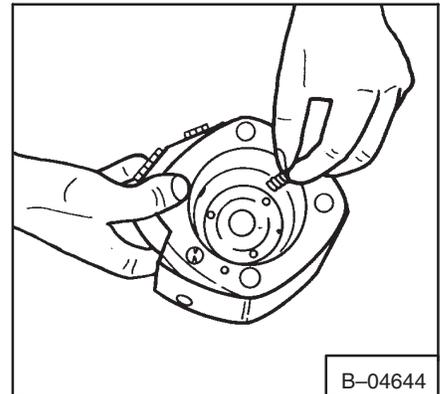

Fig. 3-74 Installing Springs And Pins
28. Install the spring and pins (Fig. 3-74) in the valve housing.